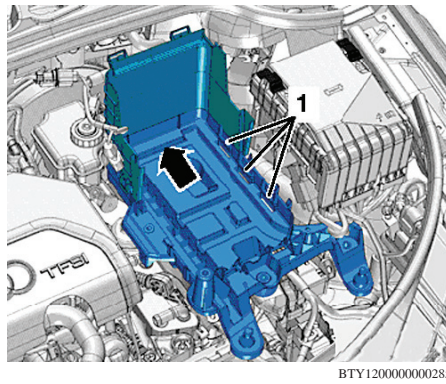

Fig. 4 Battery installation
1. Place battery into battery tray so that retainers on bottom of battery fit into retainer openings in battery tray (1), **Fig. 4**. It should not be possible to move battery. Battery is properly inserted when center notch of battery base reinforcement aligns with threaded hole in battery carrier.